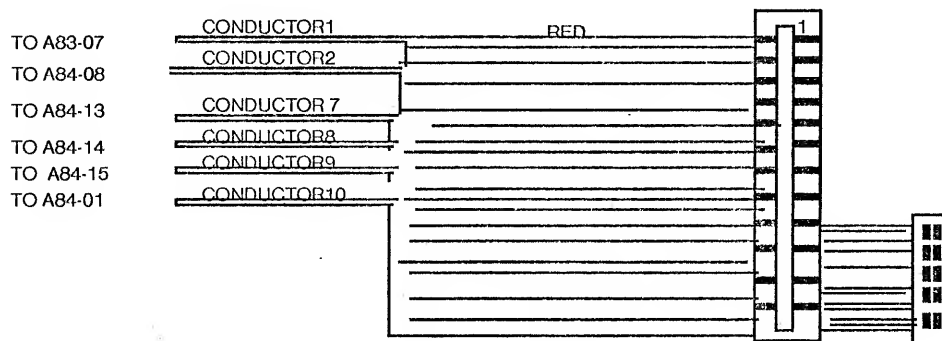

FIG. 4
7.0A ADD WIRE (OBSERVE FIGURE 4)